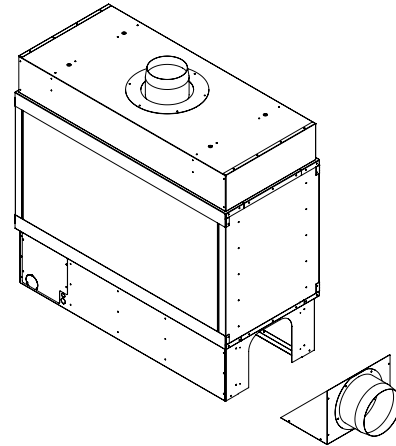

Figure 8V.2
Refer to Figure 8V.2
Step 3: Turn plate so collar is facing down, slide plate into slots on each side. Refer to Figure 8V.3A and Figure 8V.3B